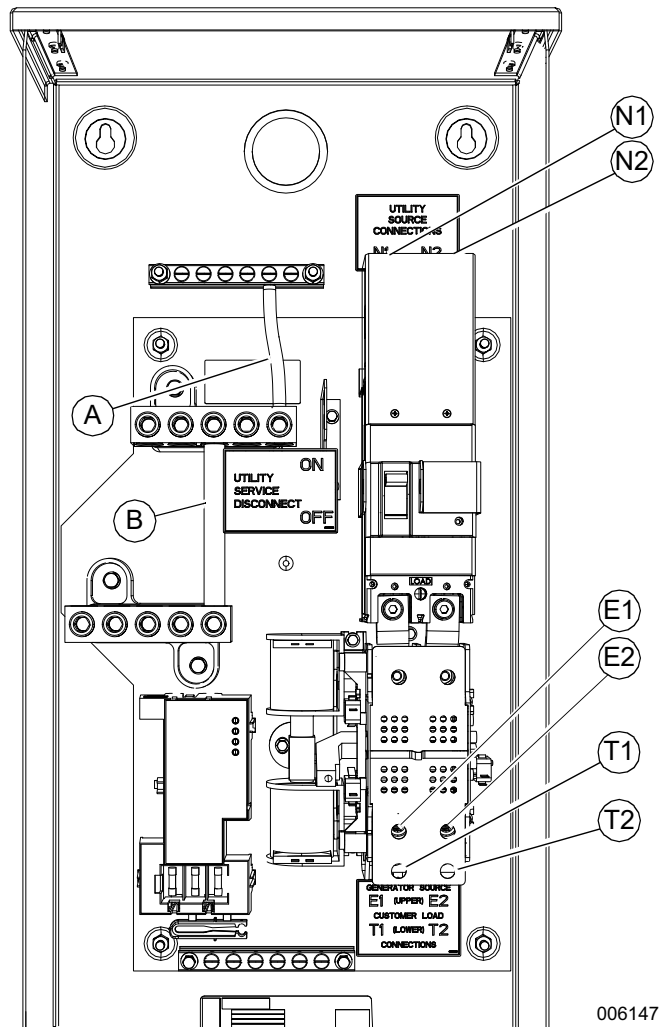

Figure 3-2. Wiring Connections
2. See Figure 3-2. Connect utility neutral and ground to the Upper Neutral and Ground terminals. Neutral and Ground terminals are bonded to each other with a jumper wire (A).